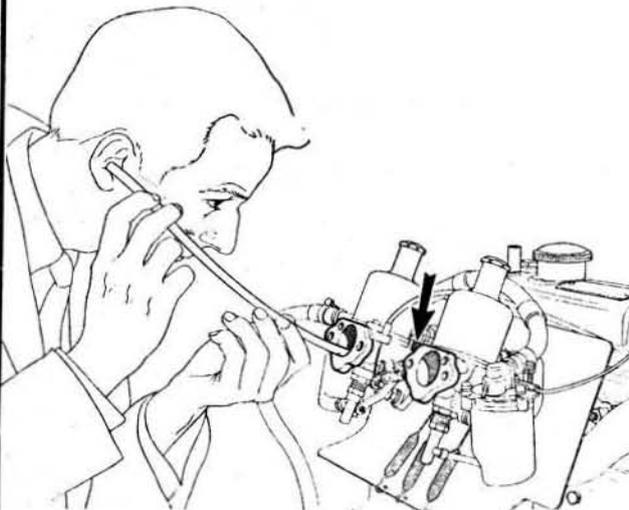

Fig.3.29. Balancing the S.U. carburettor
- 2 Remove the suction chambers from the carburettors and screw out both mixture screws (B) until the tops of the jets are flush with the jet bridge in each carburettor body.
- 5 Screw in the slot running volume screws (A) until they meet their seatings and then unscrew each of the screws  $2\frac{1}{2}$  turns.
- 7 Now the carburettors must be balanced (synchronised) by adjusting on the slow running volume screws (A) until they are sucking equally. This can best be judged by applying a balance meter to the carburettor air inlet and adjusting on the screws until the readings are the same. Alternatively, listen to the "hiss" of each carburettor (use a piece of tube as illustrated in Fig.3.29, a piece of old bicycle tube is ideal and adjust on each of the screws (A) until it is judged that the hiss from each carburettor is the same.
13 Now the carburettors must be balanced (synchronised) by adjusting the throttle adjusting screws until they are sucking equally. This can best be judged by applying a balance meter to the carburettor air inlet and adjusting the screws until the readings are the same. Alternatively, listen to the "hiss" of each carburettor (use a piece of tube as illustrated in Fig.3.29, a piece of old bicycle tube is ideal) and adjust on each of the screws until it is judged that the hiss from each carburettor is the same.